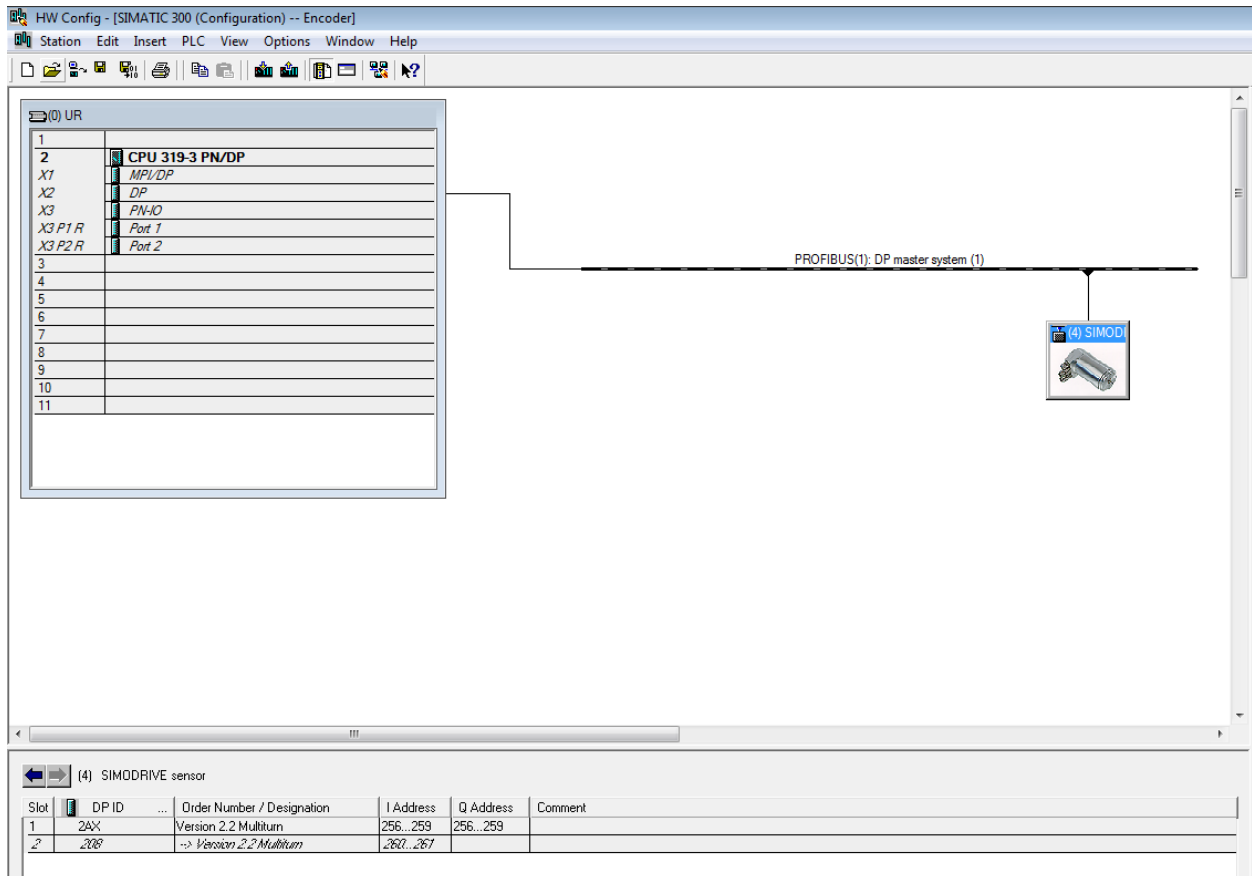

Figure 1: Standard hardware configuration of an S7-300 CPU and absolute value encoder
3. Open the station in "HW Config" and configure a 319-3 CPU. Follow the standard procedure to add and configure the desired absolute value encoder. The configuration will appear as shown in Figure 1.